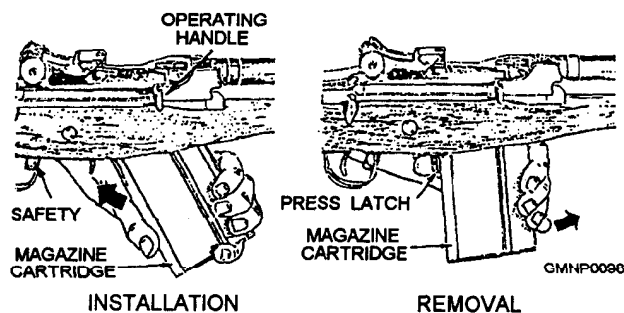

Figure 3-24.—Installation and removal of magazine.
If a magazine is in the rifle, press the magazine latch (fig. 3-24) and remove the magazine. Pull the operating handle all the way to the rear and check to see that the weapon is free of ammunition. Then ease the operating rod forward to the locked position and move the safety to the rear (SAFE position).
To load a full magazine into a rifle, insert the front end of the loaded magazine well into the front catch until the front catch snaps into engagement, then pull rearward and upward until the magazine latch locks the magazine into position (fig. 3-24).
2. Grasp the magazine with your thumb on the magazine latch, and squeeze the latch to release it. Push the magazine forward and downward to disengage it from the front catch, and then remove it from the magazine well, as shown in the right-hand view of figure 3-24.